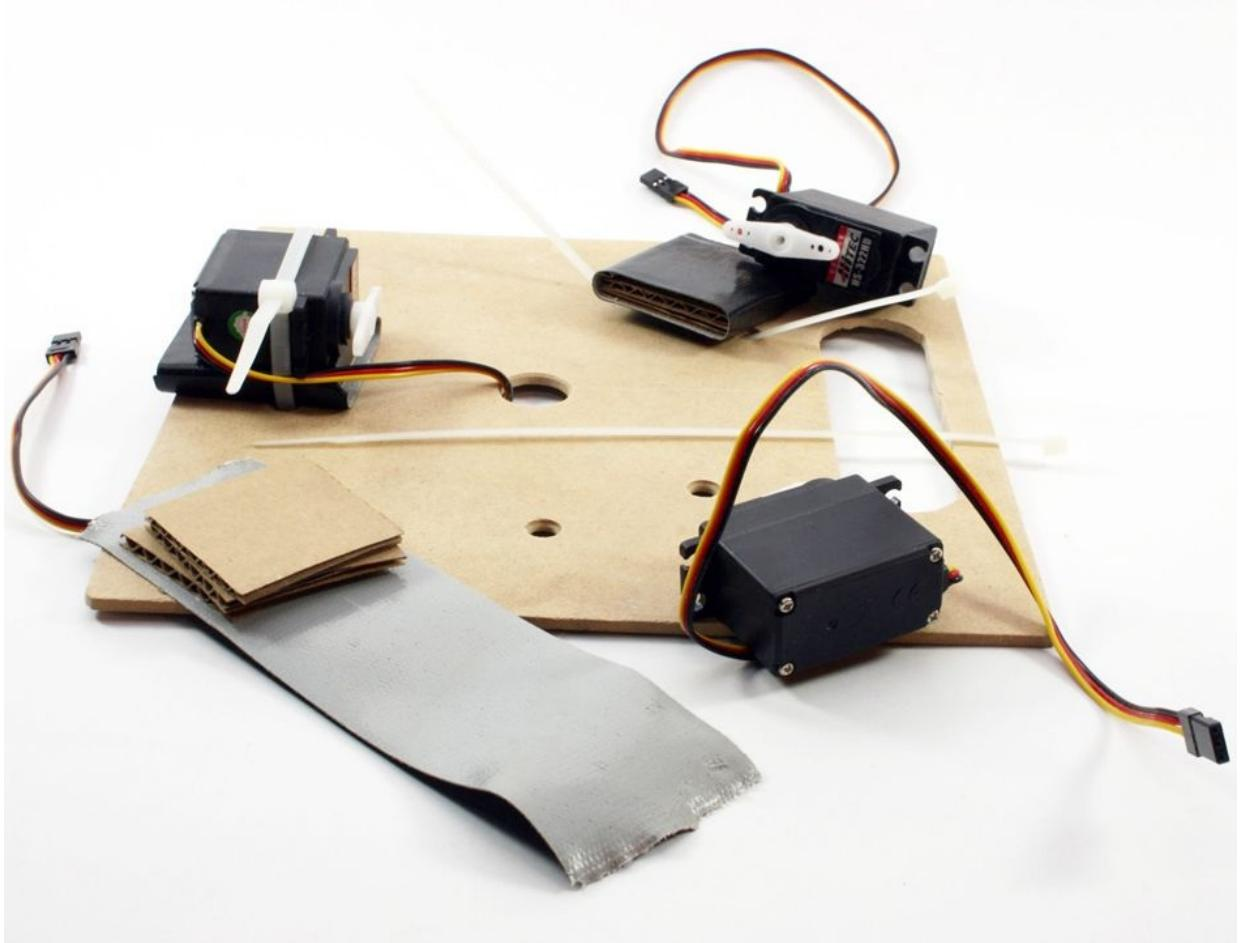

Figure 13-14. Attaching servo motors
11. Now tape three pieces of cardboard together, and sandwich them between the servo and the top platform. Then zip-tie the whole thing to the top platform. This cardboard shim provides a little bit of clearance to make sure the top part of the servo arm can rotate freely. If you have something stronger than cardboard like a few extra bits of hardboard or other wood, that's even better! Just make sure you have about 1/2" of clearance. Pay attention to the orientation of the servo motors as indicated on the template. There was a little awkward space left over, so I've cut out a carrying handle. This is completely optional. Figure 13-14 shows the servos attached.